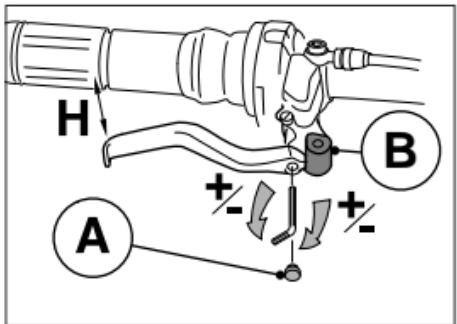

Fig. 8
To adjust the lever position it is necessary to remove the locking knob A (Fig.8) and with a TORX® -T15 wrench act on the internal screw of the lever by regulating the distance H according to your preferences. Lock the knob in place again after completing the adjustments.
*Should biconical bush **B** (Fig 8) not be tightened enough, as prescribed, it might come loose while riding. This causes hose detachment and consequently a dangerous situation for the rider and for anyone found nearby.*